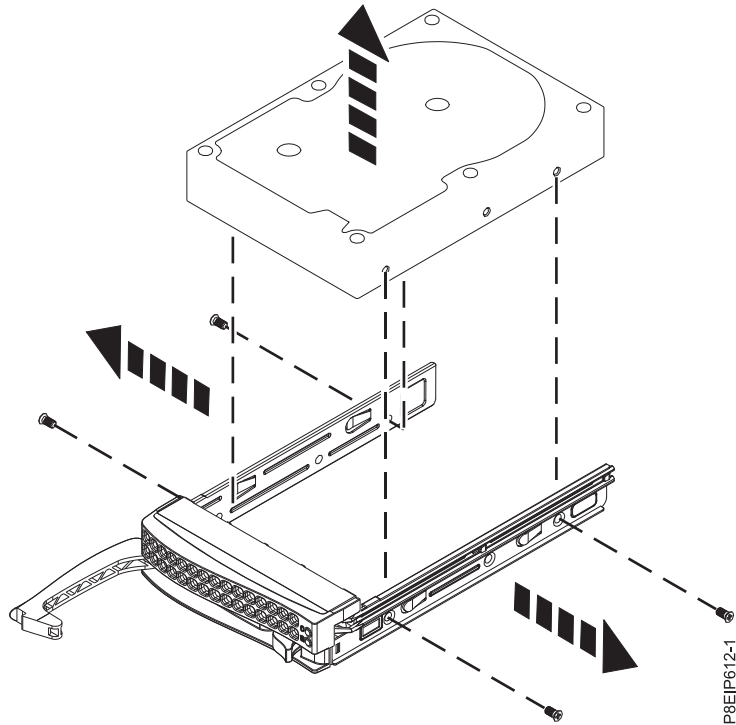

Figure 2. Removing the 3.5-inch disk drive from the drive tray
6. Remove a disk drive from the drive tray. Unfasten the disk drive from the sides of the drive tray by removing four screws (two screws on each side), as shown in Figure 2 on page 5.